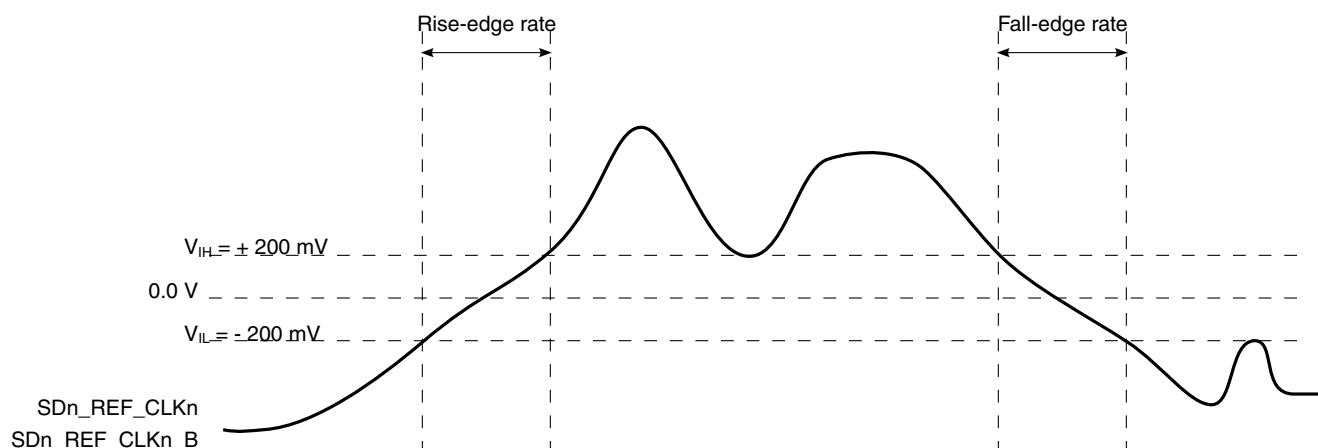

Figure 36. Differential measurement points for rise and fall time
9. Measured from -200 mV to +200 mV on the differential waveform (derived from SDn_REF_CLKn minus SDn_REF_CLKn_B). The signal must be monotonic through the measurement region for rise and fall time. The 400 mV measurement window is centered on the differential zero crossing. See Figure 36 .